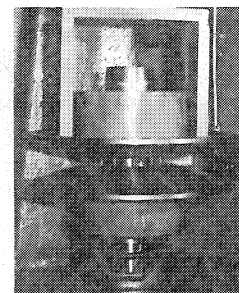
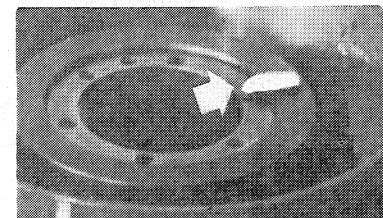

Fig. 13
Fig. 14
7. Using press and fixture (see Fig. 13) depress flange assembly until top flange is flush with end of sleeve. While holding flange assembly in place, remove O-ring ramp. Thread special keeper screw in one of the tapped holes in end of sleeve, see Fig. 14. This will hold flange assembly in place for other operations.